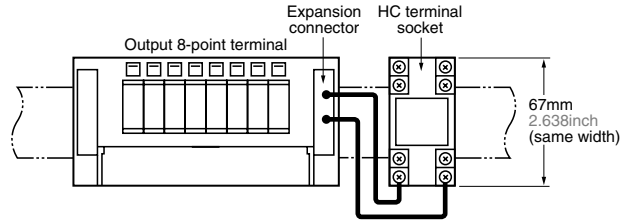
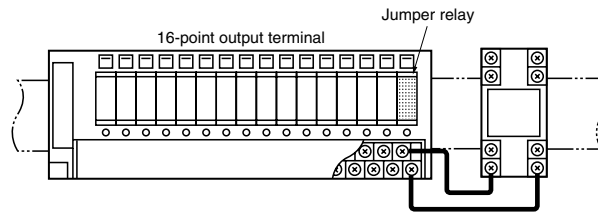

Fig. 1
Fig. 2
- 1) Install the heat sink according to the following drawing (Fig.1). Remove it according to the following drawing (Fig.2).
Installation (Fig.1)
Removal (Fig.2)
2) When the output terminal jumper relay is installed and the voltage output from a controller (PC etc.) is taken out to the terminal screw terminal, the terminal can be connected to the HC and HL terminal sockets (the effect is the same as Fig. 1).